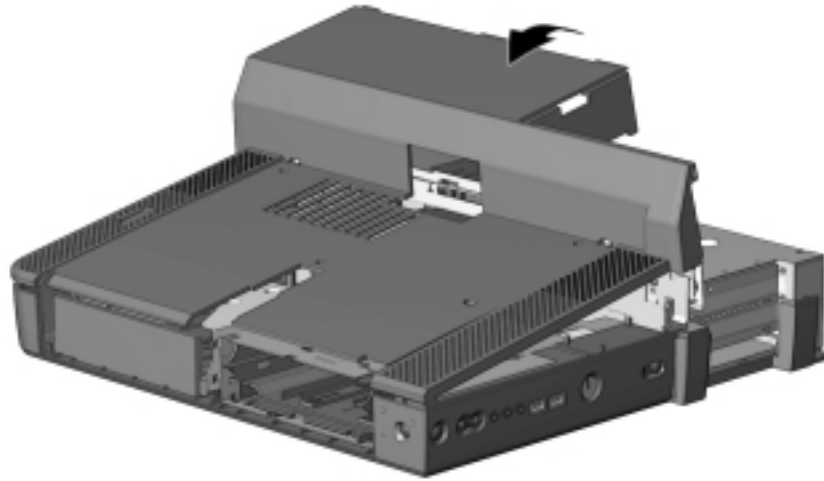

Figure 5-13. Removing the Top Cover
6. Swing the top cover up and forward to remove it (Figure 5-13).